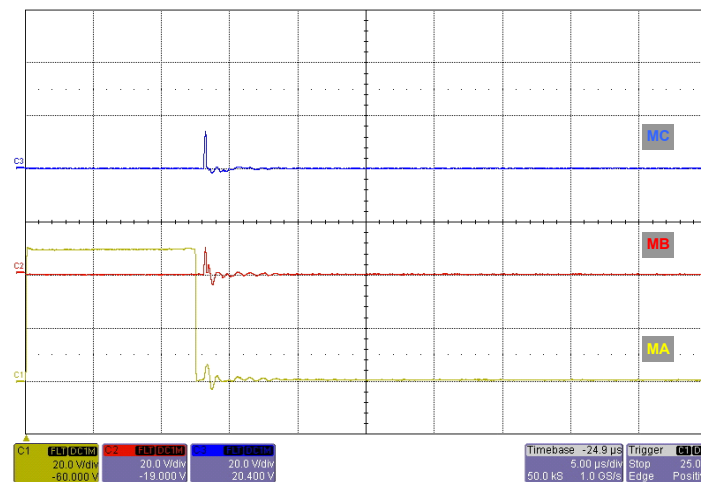

Figure 5. Waveforms on MA, MB, and MC with HA Grounded
- Figure 5 illustrates incorrect waveforms. There should not be any switching on MB and MC while MA is low. At the very edge of MA falling, there may be a small amount of induced switching noise.